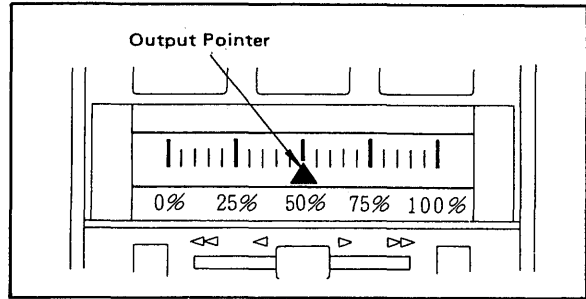

Figure 6-4. Output Indicator Major Scale Graduation.
- (3) When the reading is outside of tolerance, adjust the zero adjustment screw so the output pointer points to the major scale graduation in the center of the scale. (Figure 6-4, 5).
- (4) Next, set the output pointer at the leftmost major scale graduation, at the second major scale graduation from the left, at the second major scale graduation from the right, and at the rightmost major scale graduation. Verify that the ammeter reads 4 mA, 8 mA, 16 mA, and 20 mA respectively. (The tolerance is $\pm 2.5\%$.)
- (5) If the tolerance is exceeded in (4), return to (2) and make fine adjustments with the readings until all readings fall within the tolerance.
- (6) Repeat (4) and (5) until the readings at all points are within tolerance.